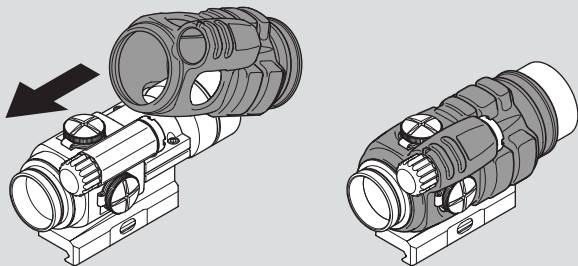

Fig. 4 Installing the Rubber Cover (Right-handed shooter configuration only!)
- b Put the front part of the sight into the lower opening of the Rubber Cover (10) and pull it backwards over the rear part of the sight. Be careful not to pull too hard and far, the Rubber cover (10) could be destroyed (fig. 4) .
- c Re-install the lens covers (8) and (9).
- d When removing the Rubber cover (10) from the sight, do the opposite: Start by gripping the lower the rear part of the Rubber cover (10) and pull it upwards and forward, off the sight.